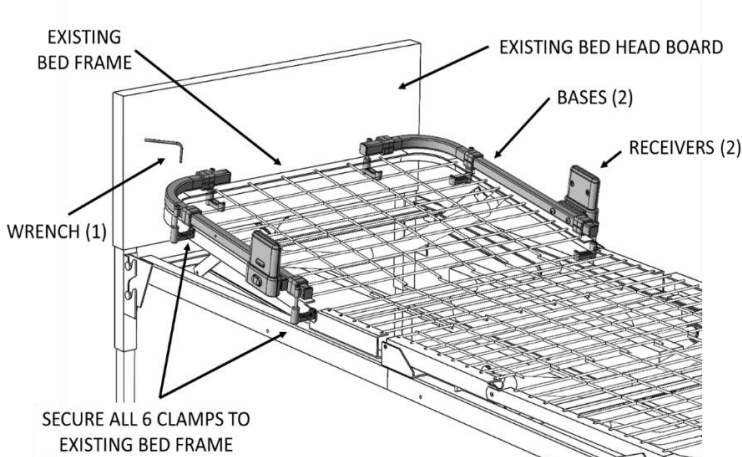

FIGURE 6
5. Both **BASES** with attached **RECEIVER** must be clamped to the existing bed frame to prevent entrapment. Each **BASE** must have a **RECEIVER** attached to prevent entrapment. Both **BASES** with attached **RECEIVER** must be clamped to the existing bed frame to prevent entrapment as shown in Figure 6.